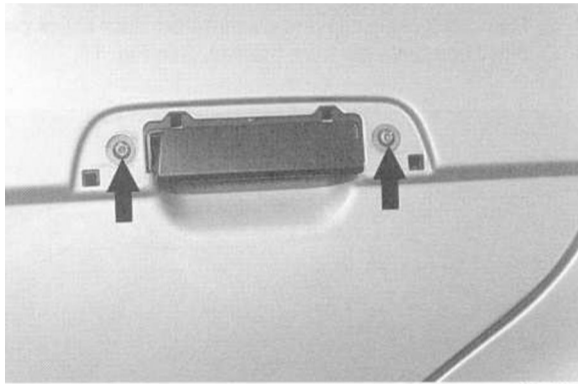

Fig. 12. Rear door handle mounting screws (arrows).
5. Remove door handle trim piece from door handle. Remove door handle screws while supporting handle. See Fig. 12.